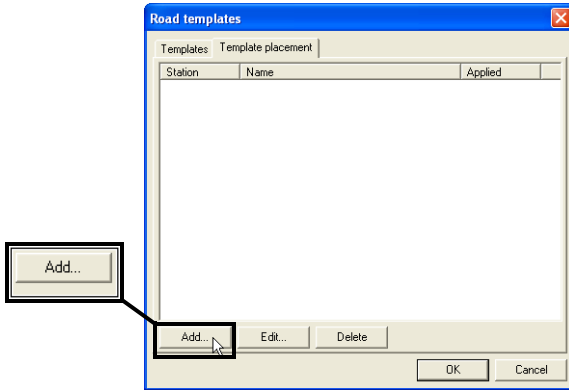

Figure 6-19. Place Road Templates
1. Click **Alignment ► Templates** and click the *Template placements* tab. Then press **Add** (Figure 6-19).